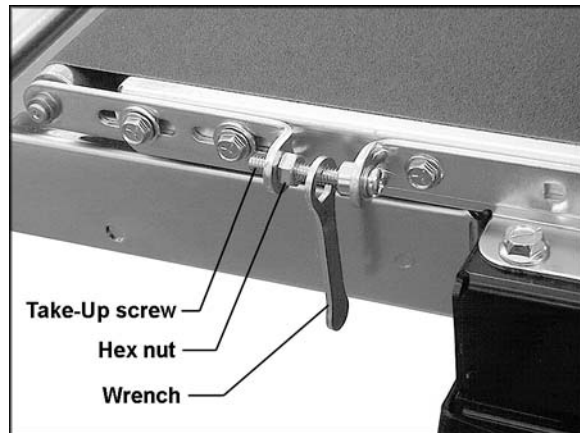

Figure 22
**Belt Tension:** To adjust the tension of the conveyor belt, first adjust the take-up screw nut (Figure 22) on both sides of the conveyor to obtain approximately equal tension on both sides of the belt when taut.
**Belt Tracking:** Adjustments to tracking are made while the conveyor belt is running. After the proper belt tension has been achieved, turn on the conveyor unit and set it at the fastest speed setting. Watch for a tendency of the conveyor belt to drift to one side of the conveyor. If there is drifting, tighten the take-up screw nut (Figure 22) on the side toward which the belt is drifting, and loosen the take-up screw nut on the opposite side. NOTE: Adjust the take-up screw nuts only 1/4 turn at a time. Then allow time for the belt to react to the adjustments before proceeding further. Try to avoid over-adjustments.
2. Adjust conveyor take-up screw nuts (Figure 22) to relieve belt tension.